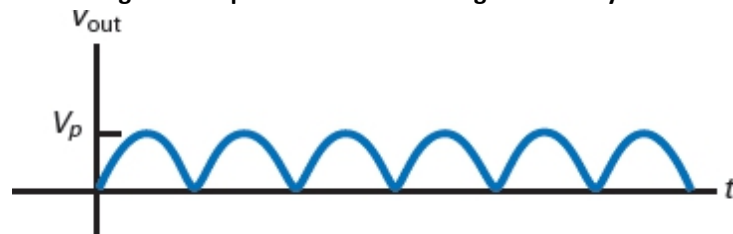

Figure-48 Full-wave output
- During both half-cycles, the load voltage has the same polarity and the load current is in the same direction. The circuit has changed the ac input voltage to the pulsating dc output voltage shown in Figure-48. Note the advantage of this type of full-wave rectification over the center-tapped version in the previous section: **The entire secondary voltage can be used.**